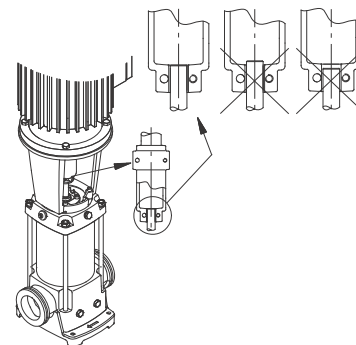

Fig. 20 Coupling adjustment, CR, CRN 32, 45 and 64
3. Fit the coupling on the shaft so that the top of the pump shaft is flush with the bottom of the coupling chamber. See fig. 20.